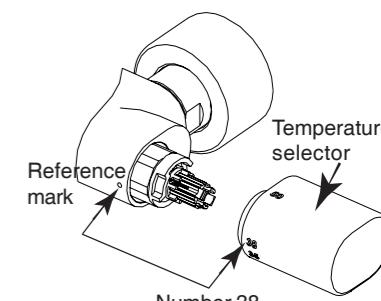

Fig. 9
- Install the temperature handle (without turning the spindle) lining the number 38 with the mark (fig.9).